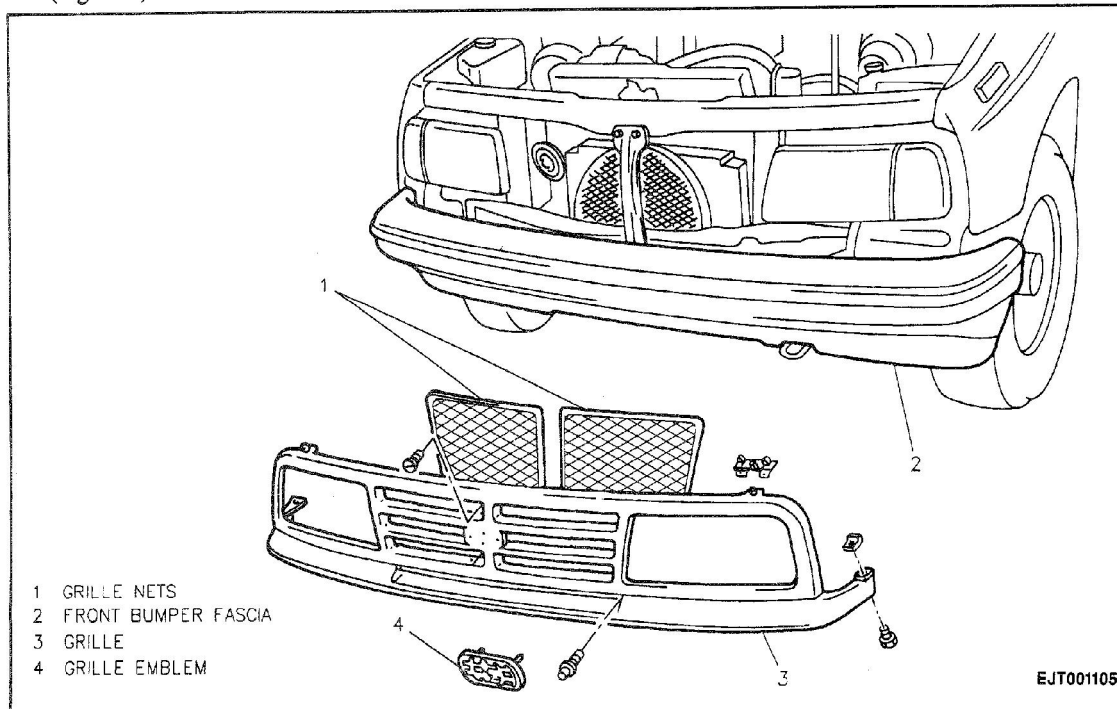

Figure 5—Grille Components
4. Two retainers and grille emblem from grille (Figure 5).
1. Grille emblem to grille; secure with two retainers (Figure 5).
- Unclip grille net from grille (Figure 5).
- Grille net to grille; clip into place (Figure 5).